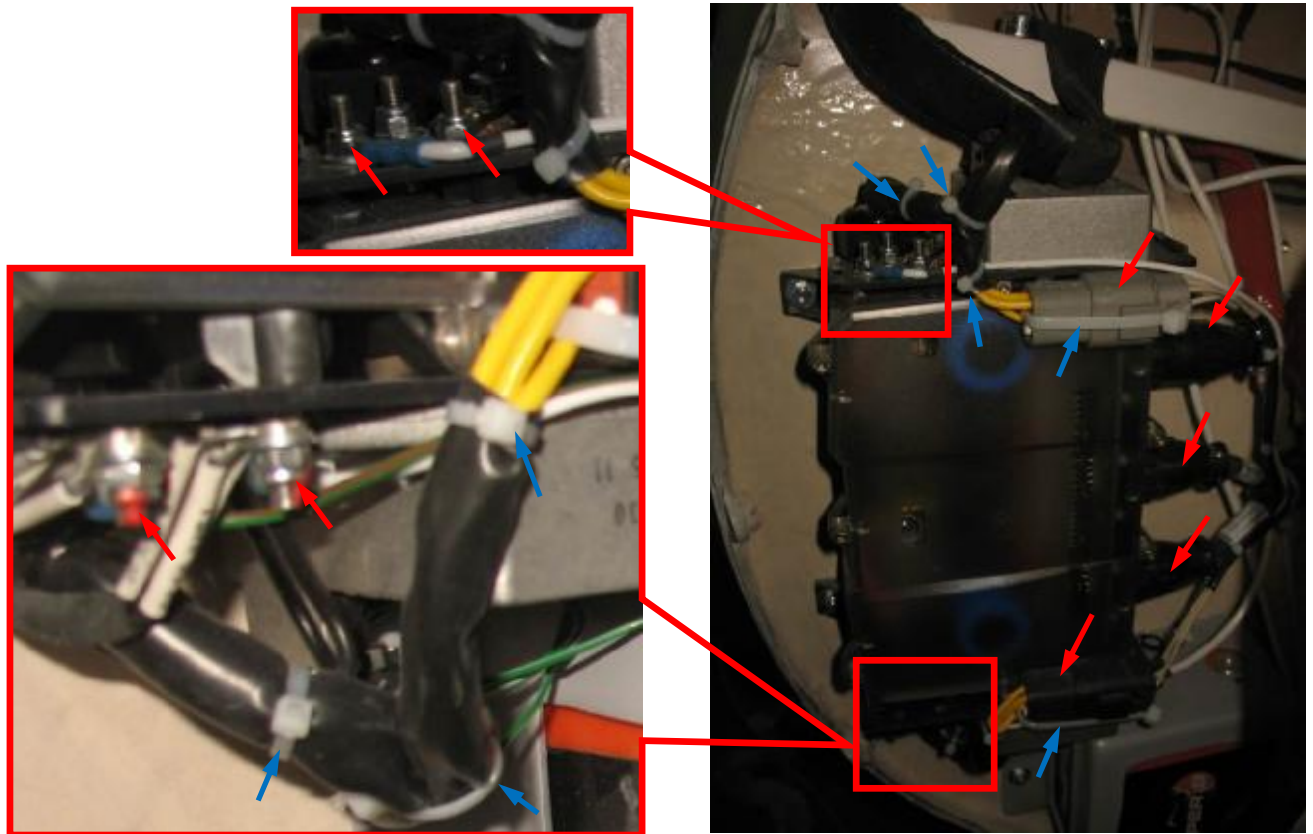

Fig. 1
2. Cut securing TY-wraps marked by blue arrows, see Fig. 1. Then unplug the engine wiring harness and screw-out grounding connectors from the fuse box shown on Fig. 1 by red arrows.